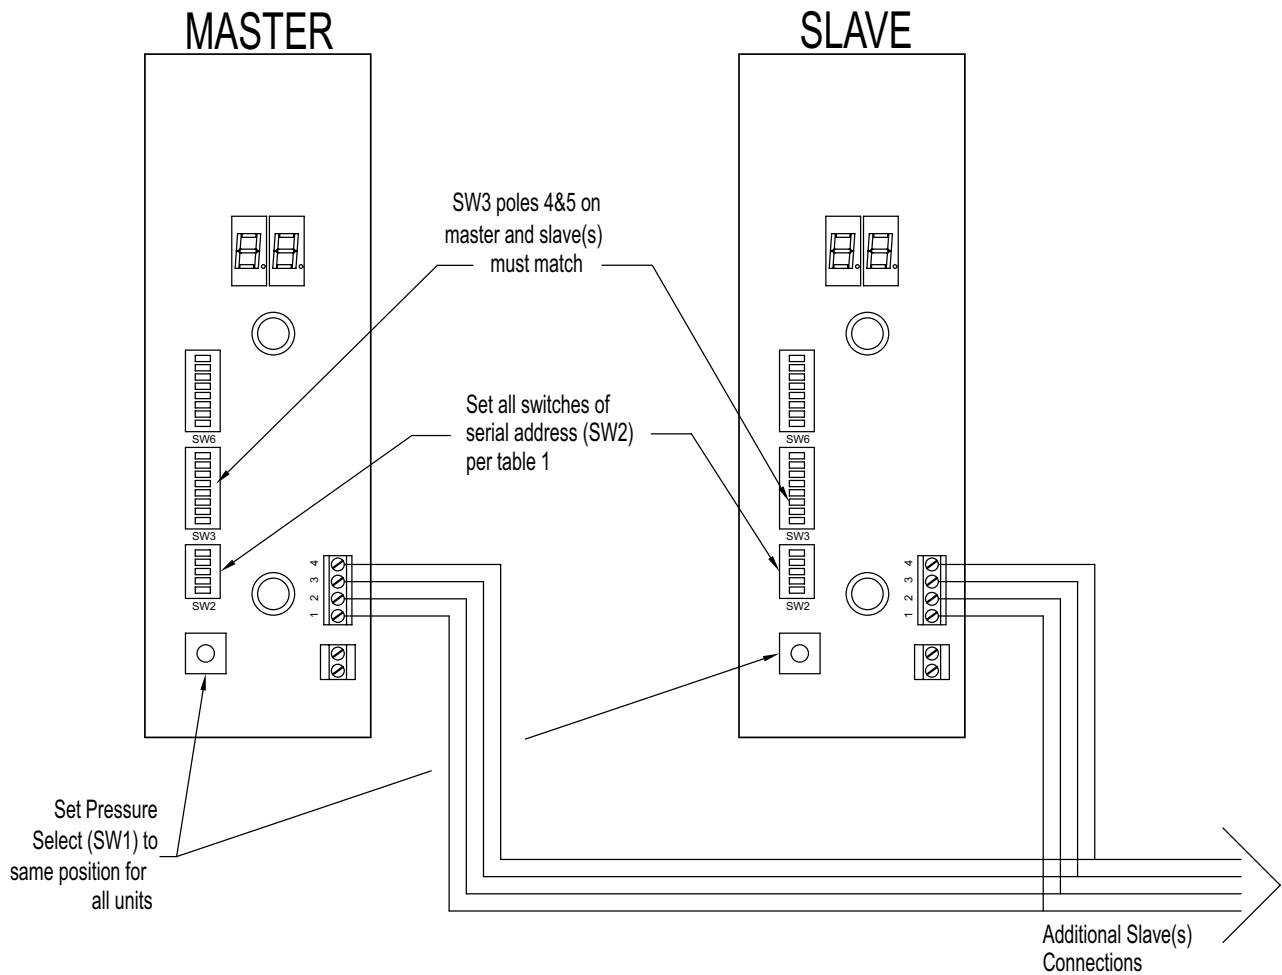

Figure 5: Setup Master/Slave Configuration
See Figure 5 wiring diagram for the RS485 connections.
18. Wire the RS485, connecting the master EcoVFC to the slave(s) EcoVFC as shown in Figure 5. Wire per NFPA 30A, and NFPA 70. For the signal wires, use at least 22 AWG (300V minimum) 4 conductor shielded cable with a drain and within a common jacket. Cut wires to length so that there is no excess wiring touching circuit board components.